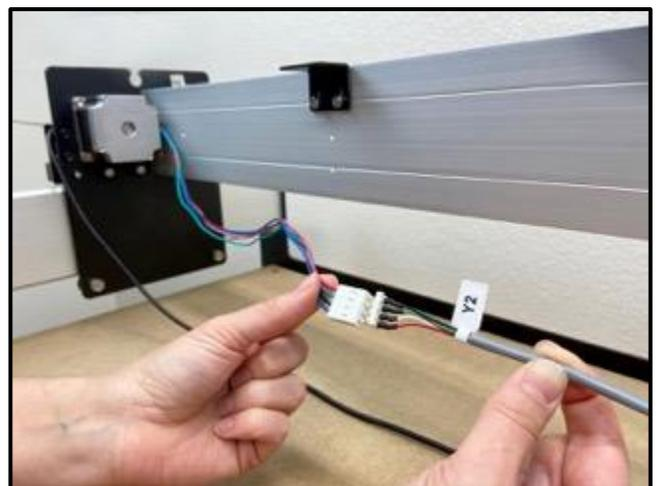

Figure 8-13
2. Extend the long gray 4-pin extension cable labeled "Y2" about 3/4 of the way across the machine and connect it to the Y2-motor leads as shown in **Figure 8-13**.